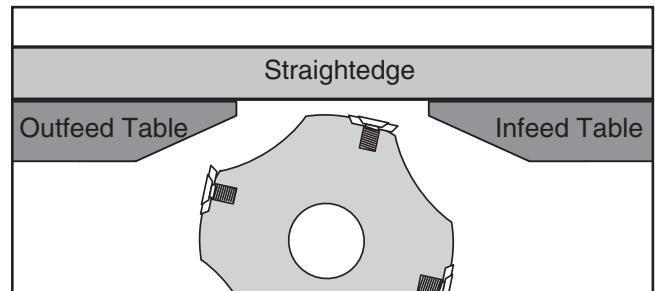

Figure 61. Infeed and outfeed tables set parallel.
2. Place straightedge halfway across infeed table and halfway over outfeed table, and adjust infeed table even with outfeed table, as shown in **Figure 61**.